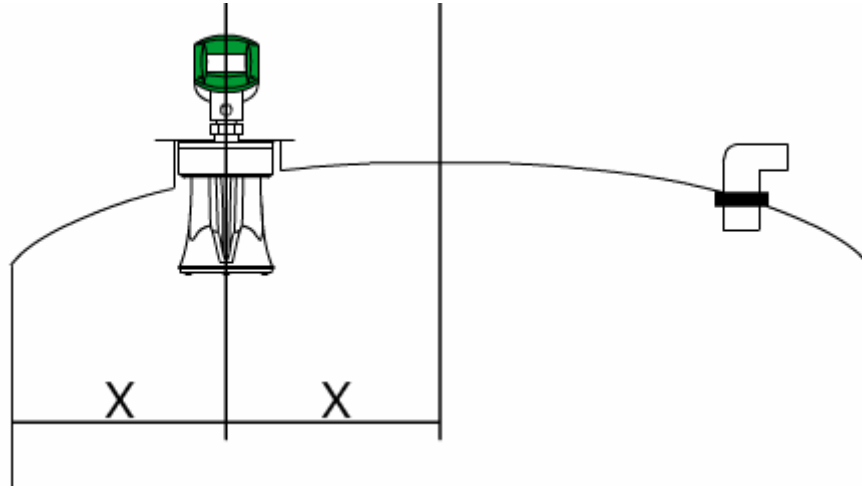

Figure 7 Optimal Position
- ⦿ The optimal position for the scanner is halfway between the center and the side of the vessel, as shown in *Figure 7*. Do not install the scanner in the center of the vessel.